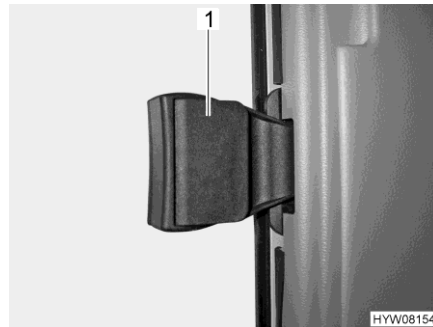

Fig. 62 Front passenger's window
- Unfold the handle (Fig. 62,1).